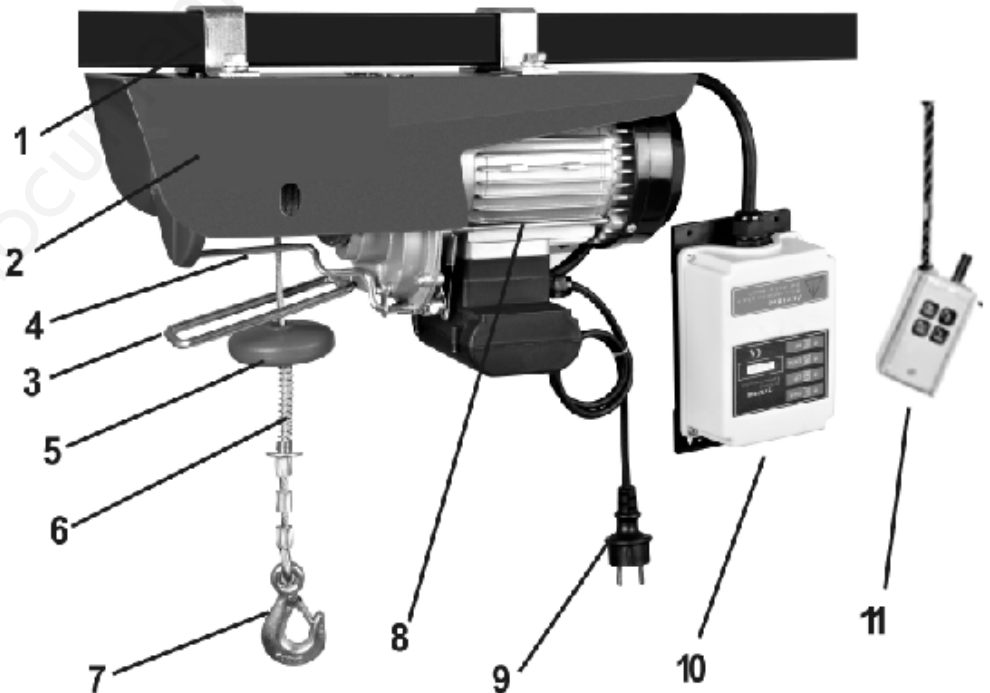

Fig. 1
- The cable winch is operated using the operating panel (fig. 1, item 10). When operating the upper position of the switch, the load is hoisted up. When operating the lower position, the load is lowered. Never switch directly from hoisting to lowering or vice versa. Always stop the cable winch prior to changing directions.
- Operate the emergency-off switch (fig. 1, item 9) to immediately stop the cable winch in case of an emergency and to secure against restart. To reset the device to operational status, first turn the emergency-off switch clockwise, which will unlock the red key. The cable winch is now operational.